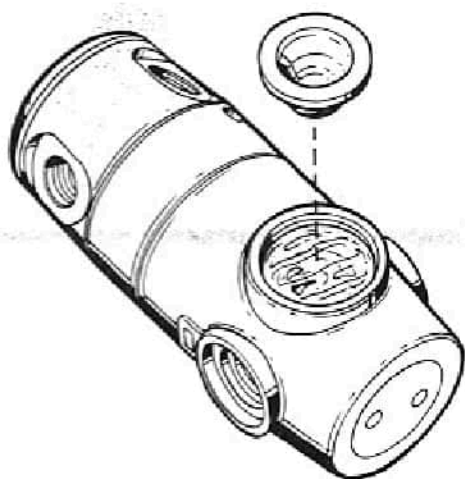

Fig. 17 - Secondary Diaphragm Installation
29. While holding the first stage with the secondary diaphragm orifice facing up to prevent any spillage of silicone fluid, install the secondary diaphragm(24), with the dimple facing into the round cavity of the body (see Fig. 17). Carefully tamp the diaphragm into place to ensure that it is evenly seated in the recessed groove below the base of the threads.
30. Install the secondary diaphragm retainer(26) into the body, and apply a 8mm hex key to tighten it clockwise until completely snug. With a clean towel, wipe the first stage thoroughly clean of any excess silicone fluid that may have been displaced.
31. Install the O-ring(6) into the dust cap(5). Wrap the nylon cord that is tied to the dust cap around one leg of the yoke, and pass the cap through the loop to form a loose knot.
32. Lightly lubricate the threads of the yoke screw(2) with silicone grease. Turn the yoke screw clockwise to install it into the yoke.
33. Lubricate and install all O-rings(27&32) onto all hoses and port plugs. Install all LP hoses and port plugs(33) into their respective ports of the swivel cap, and the HP hose(s) and port plug(28) into the HP ports of the main body. Apply a torque wrench with hex key or crow-foot to tighten these to a torque measurement of 40 (± 2) inch-pounds.